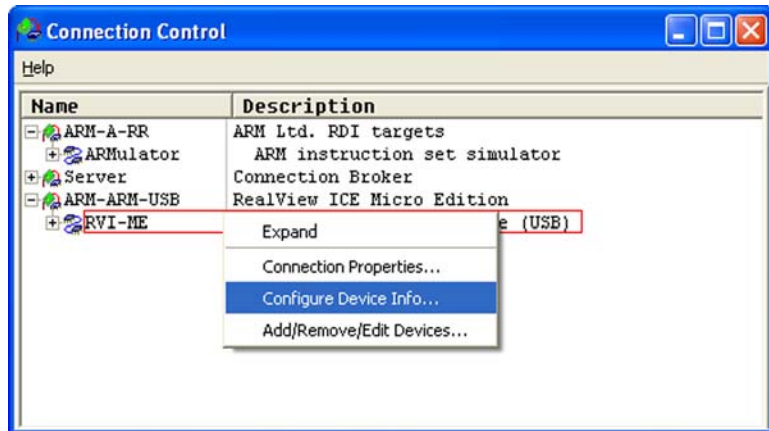

Figure 5-68. RealView Debugger RVI-ME Configure Device
3. Expand the **ARM-ARM-USB** branch to reveal **RVI-ME** in the name tree. Right-click **RVI-ME** and select **Configure Device Info**, as shown in Figure 5-68. This launches the RVConfig utility.